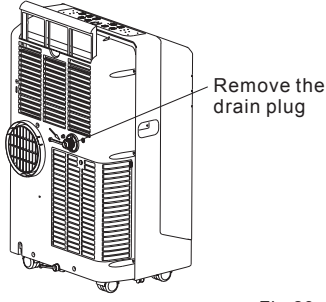

Fig.23
- During dehumidifying mode, remove the drain plug from the back of the unit, install the drain connector(5/8" universal female mender) with 3/4" hose(locally purchased). For the models without drain connector, just attach the drain hose to the hole. Place the open end of the hose directly over the drain area in your basement floor. Please refer to Fig.23 & 24.
- Remove the rubber plug at the back of the unit and attach a hose to drain outlet. Place the open end of the hose directly over the drain area in your basement floor (See Fig.23 & 24).